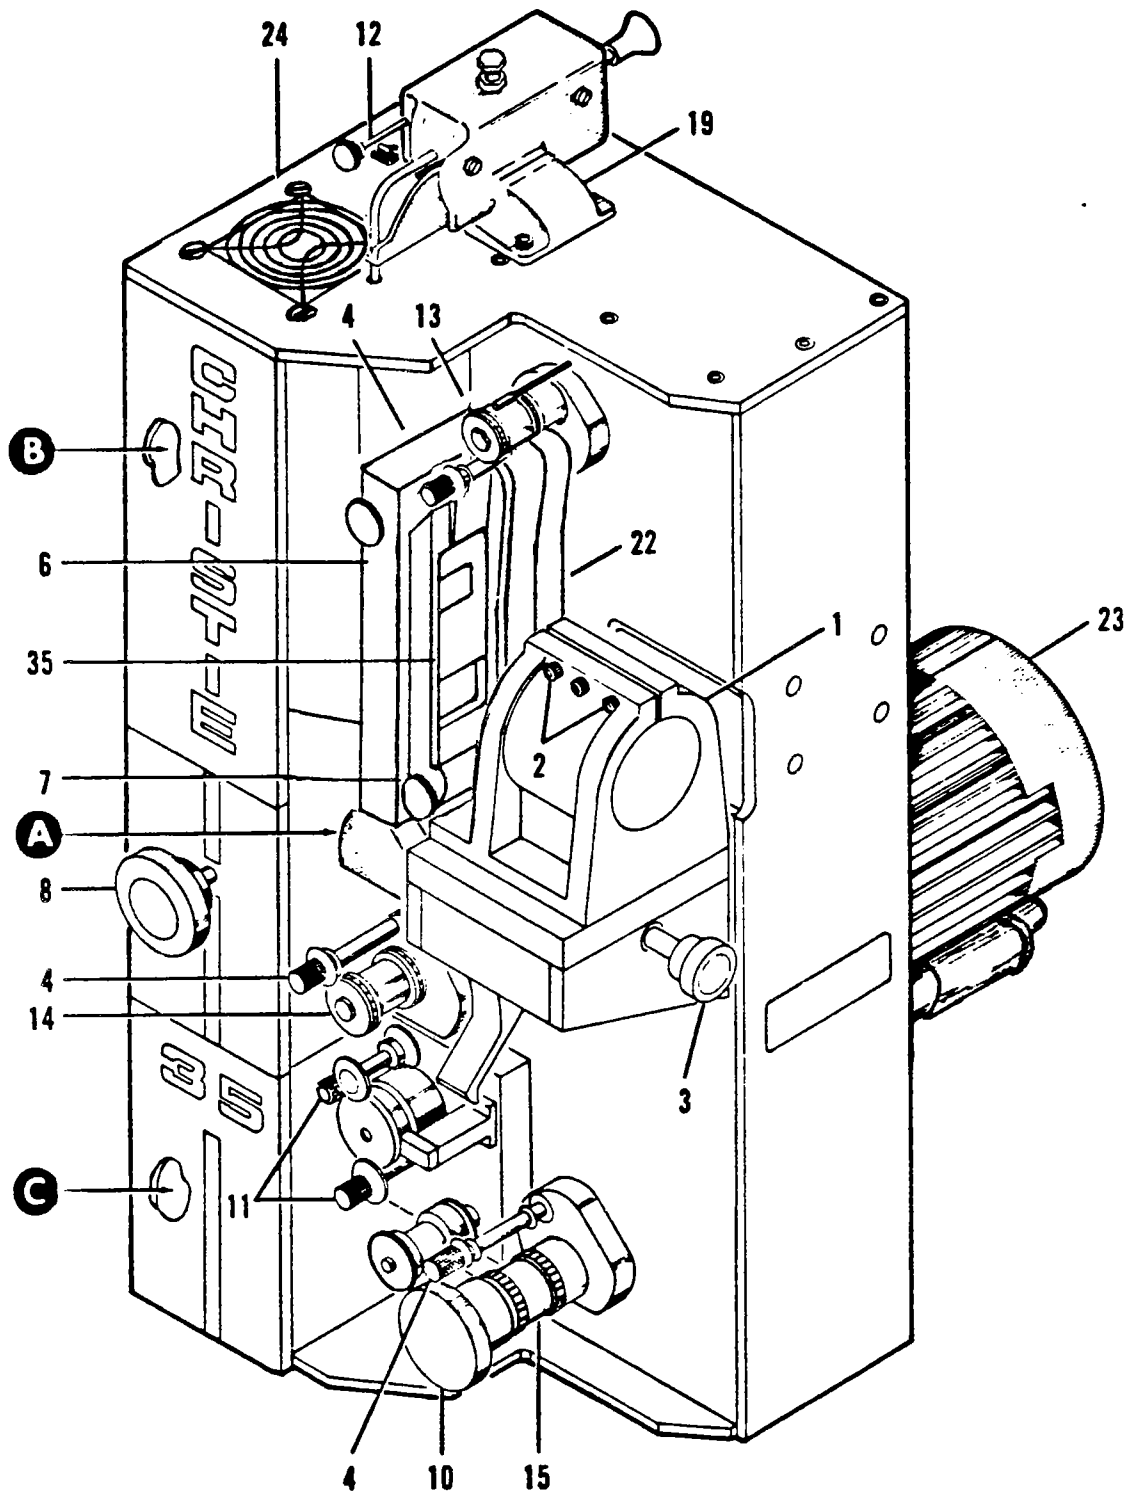
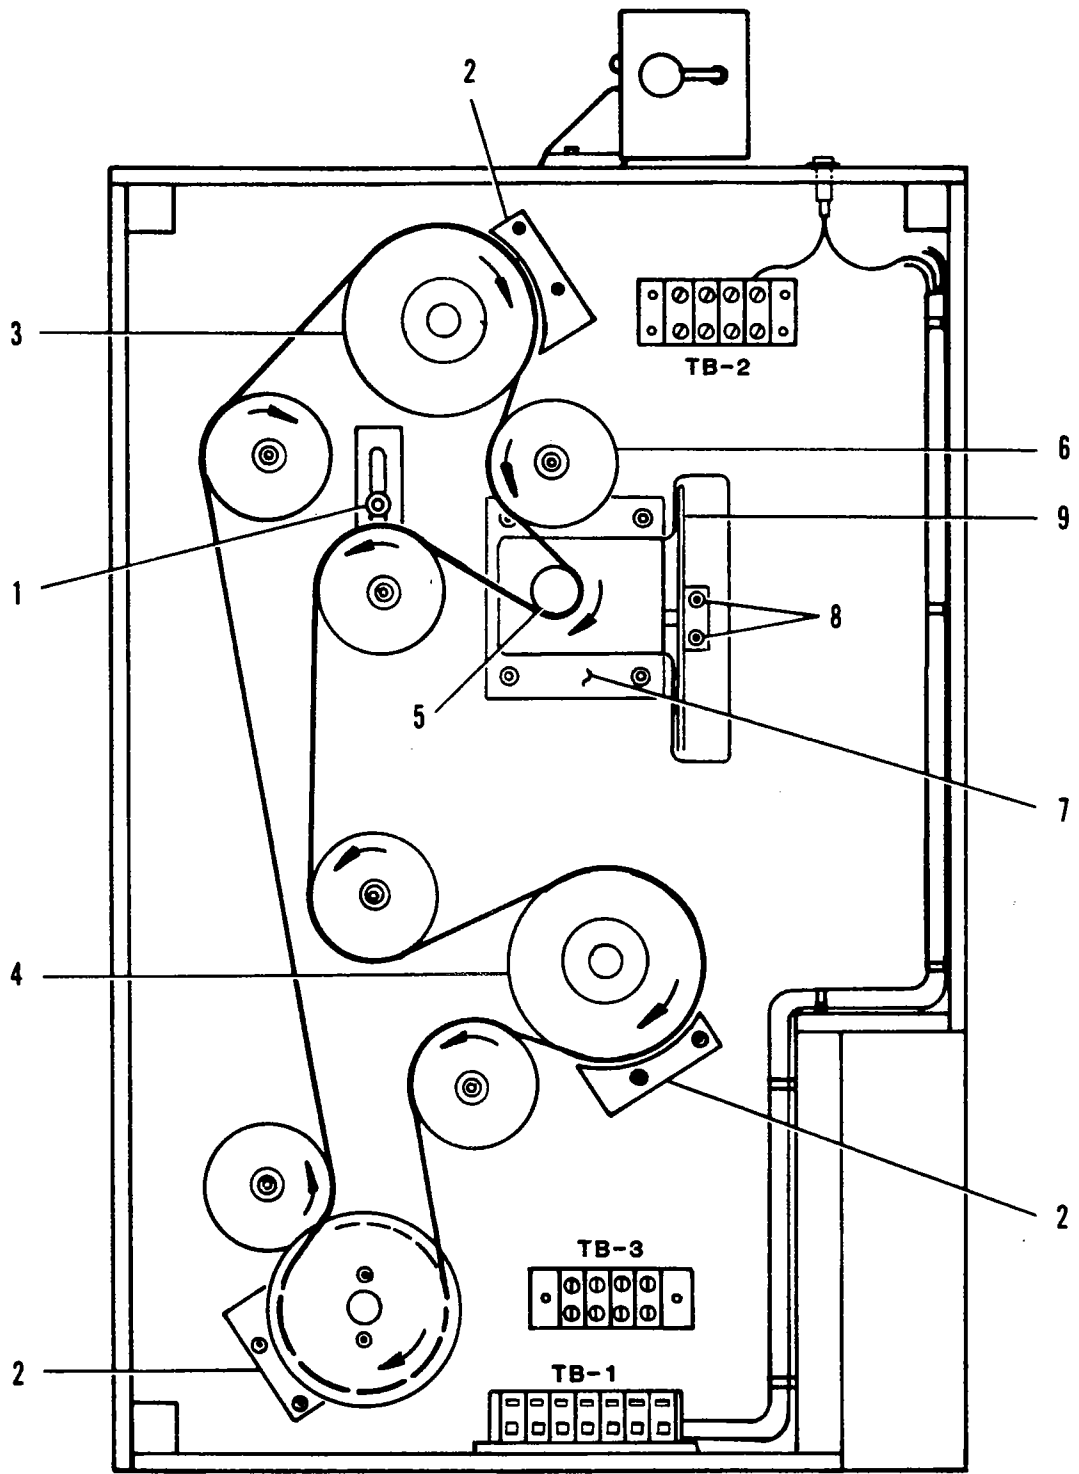

FIGURE 3-1. PROJECTOR PARTS LOCATION
FIGURE 4-2. INNER TIMING BELT
7. Refer to Figure 3-1. Install lens system in lens holder (1). If it is necessary to open the lens holder more than normal, a spreader screw is available in the hardware kit for this. Refer to Figure 3-1 (25).
8. Secure lens with allen head screws (2) located on top side of holder.
9. Set focus knob (3) at its mid position (see alignment marks on lens holder for centering). Focus lens by sliding within lens holder until in focus. Then tighten allen head screws (2).
10. Remove single lens holder (1) (if furnished) by releasing single lens locking lever (28), then lift out lens holder.
To operate the projector, refer to Figures 3-1 and 3-2 and proceed as follows:
4-6. Removal of Trap and Gate Assembly. (6, Figure 3-1)
1. Loosen outer timing belt idler pulley locking screw (1) and relieve tension on outer timing belt (2).
2. Remove bearing (3) by removing bearing retainer nut and washers.
3. Remove outer bearing retainer (4) by removing two allen head screws that secure outer bearing retainer to main frame.
4. Remove outer timing belt (2) from its associated pulleys and drive gears.
- 4-8. Inner Timing Belt. To remove the inner timing belt, refer to Figure 4-2 and proceed as follows:
2. Loosen inner timing belt idler pulley locking screw (1).
3. Remove three belt retainer guide blocks (2) by removing two allen head cap screws located at each constant speed sprocket drive pulley (upper, center, lower).
4. Remove inner timing belt (3) from its associated pulleys and drive gears.
- 4-9. Removal of Upper/Center/Lower Constant Speed Sprocket Assembly. (Figure 3-1)
2. Remove three allen head screws securing constant speed sprocket assembly to main frame, then remove constant speed sprocket assembly (13, Figure 3-1).
3. Relieve tension on inner timing belt, then remove inner timing belt from shutter drive sprocket (5, Figure 4-2).
4. Remove allen head screw securing idler pulley (6, Figure 4-2) to main frame, then remove idler pulley.
5. Remove four allen head screws securing gear box assembly (7, Figure 4-2) to main frame, then remove shutter gear box assembly.
1. Loosen shutter clamp screws (8, Figure 4-2) just enough so that shutter can be rotated on its shaft. It should be snug, not free wheeling.
6. Rotate shutter (9, Figure 4-2) by hand until crosshairs are centered in aperture. Make certain that shutter is not hitting anything.
7. Tighten shutter clamp screws (8, Figure 4-2). Be sure not to allow shutter (9, Figure 4-2) to move on its shaft after centering crosshairs.
1. Refer to Figure 4-2 and loosen inner timing belt idler pulley locking screw (1).
2. Adjust inner timing belt idler pulley (2) until required tension is obtained.